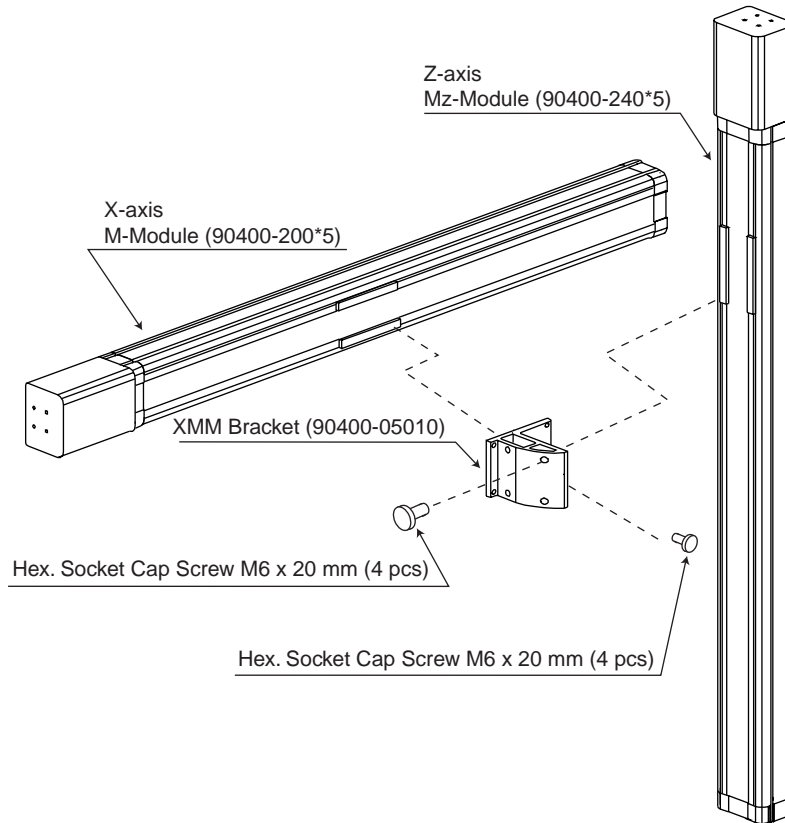

Figure 4-40. Z-3 Type Mechanical Assembly
5. Mount the Z-axis to combining bracket. Install the mounting bolts (see Figure 4-40 and refer to Table 3-3 for mounting bolt specifications).